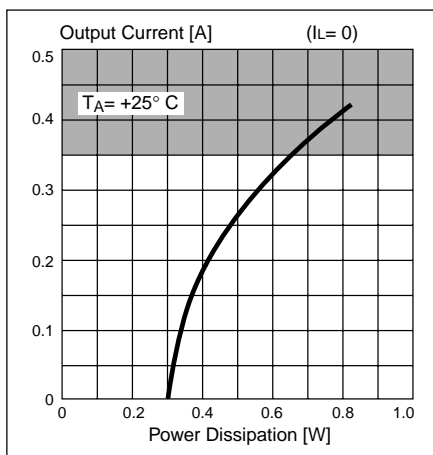

Figure 23. Typical  $P_{DP}$  vs.  $I_p$ . Power dissipation without second-level supply (includes 2 active outputs = FULL STEP)
- Figures 23 and 24 give the relationship between motor currents and their dissipations. The sum of these power dissipations must never exceed the previously-established value, or life expectancy will be drastically shortened.
- When no Bi-level or voltage doubling is utilized, the maximum motor current can be found directly in figure 23 .